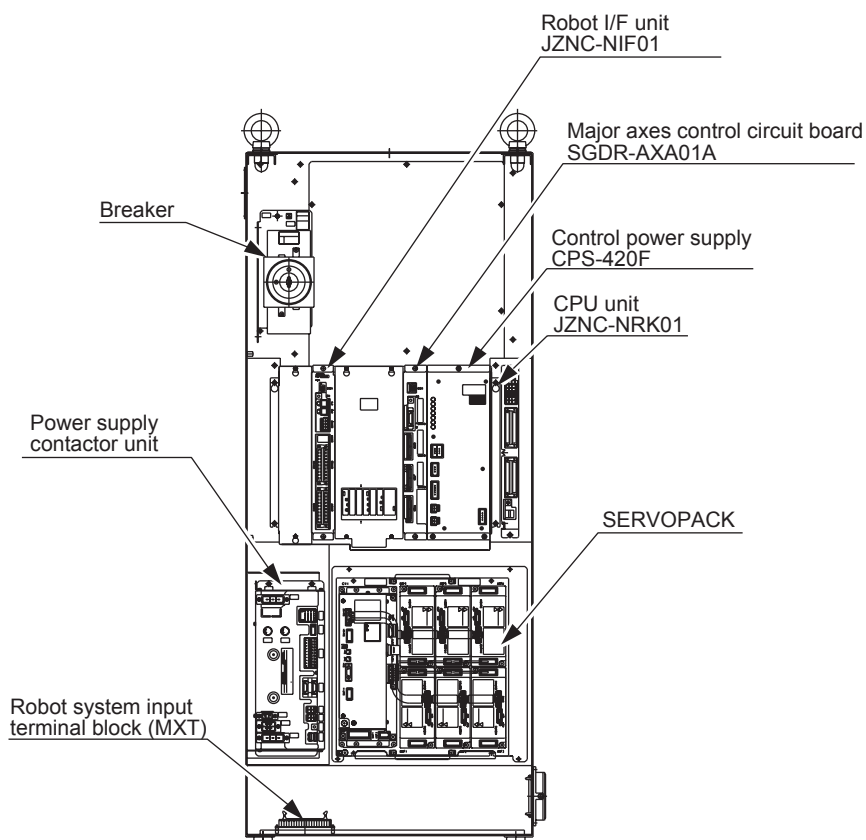

Fig. 1 Configuration of the NX100
2. Open the door of the NX100 and connect the direct IN signals to the robot system input terminal block (MXT) which is located at the bottom as shown in "Fig. 1 Configuration of the NX100".